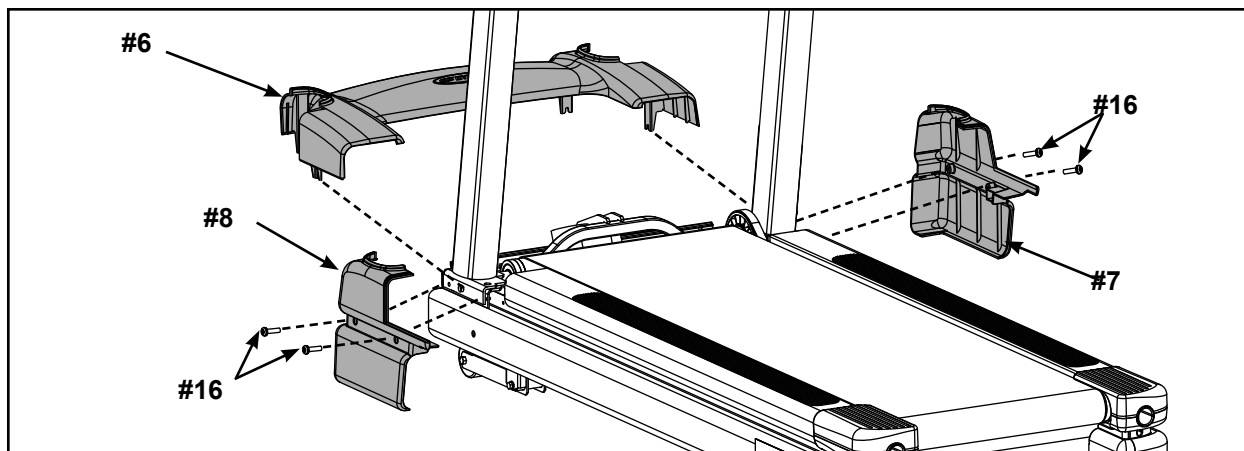

Figure 11
- B. Place the motor cover center (#6) into position. See Figure 11.